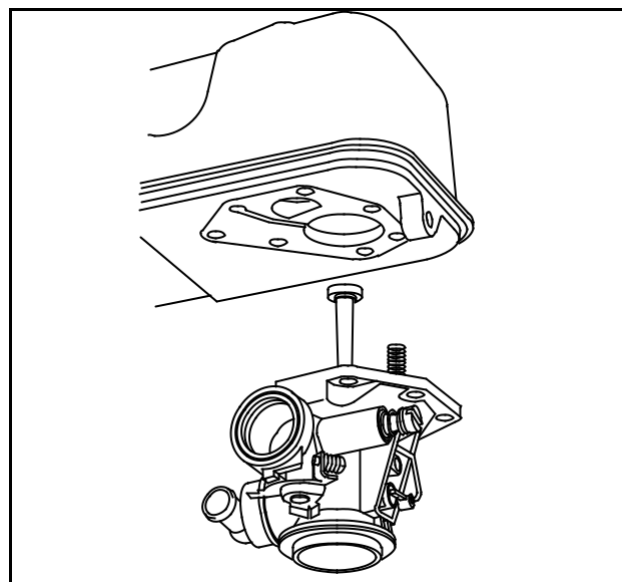

Fig. 164 - ASSEMBLING TANK TO CARBURETOR
3. Lower tank down onto carburetor, while guiding choke spring into spring well, Fig. 164.